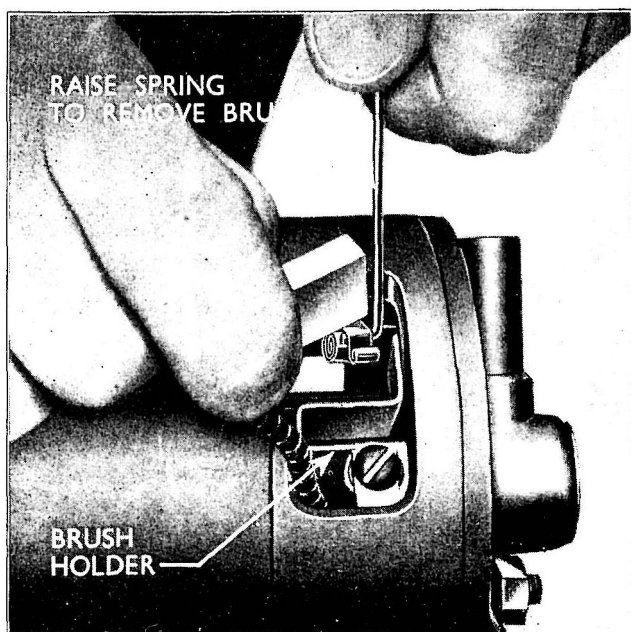

Fig. 235
- Lift the brush springs off the brushes and draw the brushes out of their holders. (See Fig. 235.)
- 3 Raise the brush springs, using a piece of wire shaped into a hook and draw the brushes out of the brush holders. (See Fig. 235.)